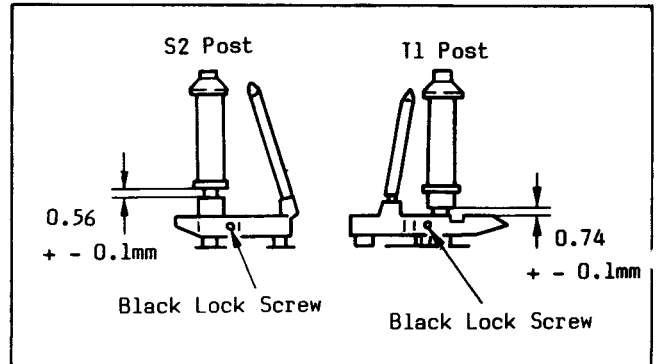

Fig. M15
- (1) For adjustment of S2 and T1 post height, loosen the Black Lock Screw located on the lower portion of Posts (S2 & T1) using the Lock Screwdriver.
- (2) Turn top of post with Hex. Wrench (1.5mm) slightly in either direction as necessary to the correct clearance as shown in Fig. M15.